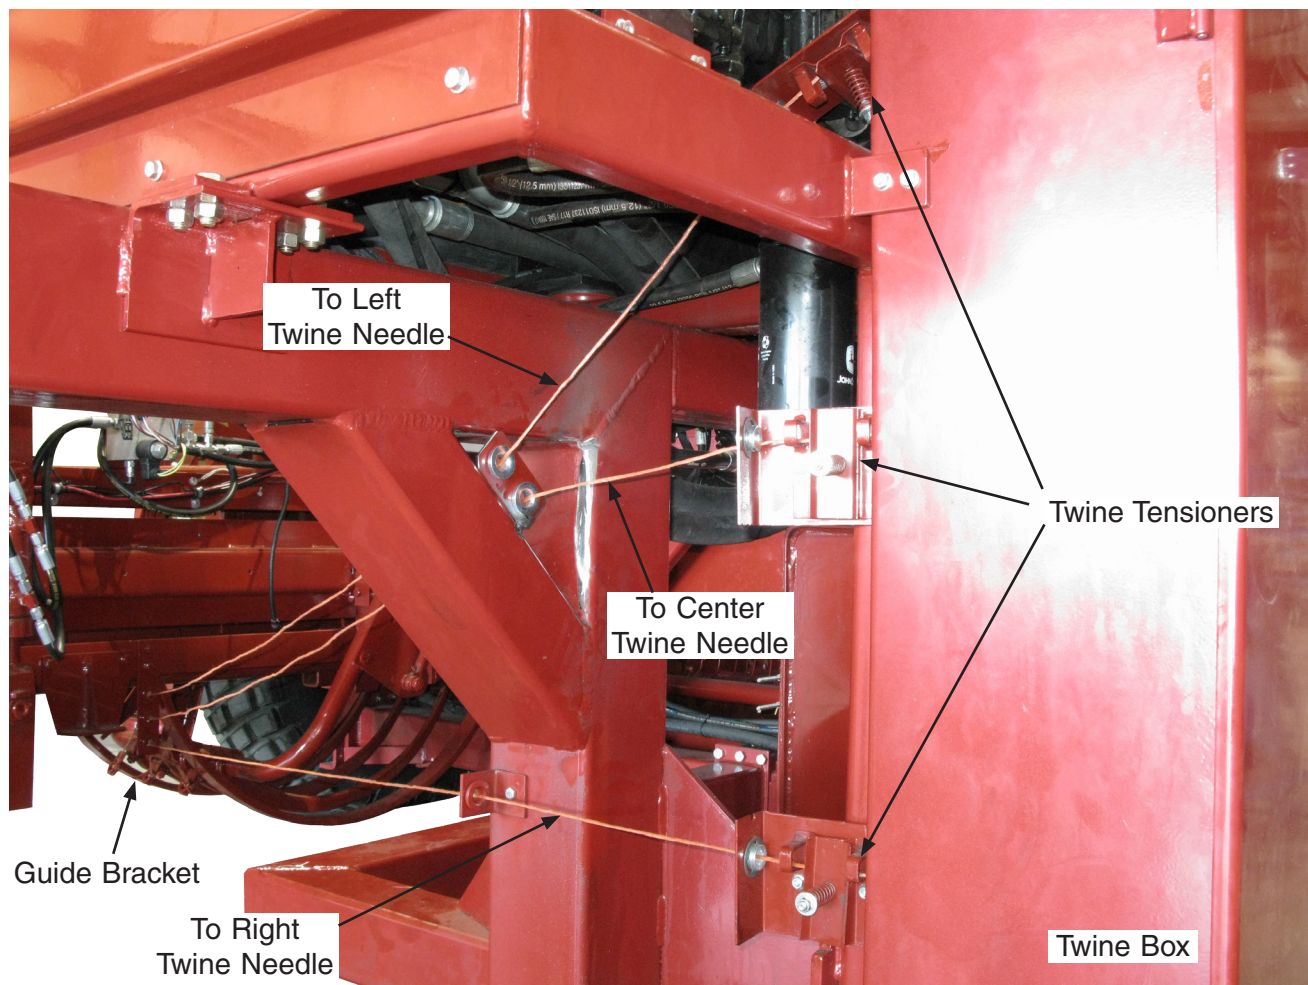

Figure 156. Twine Routing From Twine Box To Bale Chamber
9. Twine from the top tensioner threads through the top guide in the bracket that is mounted to the lower right side of the bale chamber. Twine from the middle tensioner threads through the middle guide, and twine from the bottom tensioner to the bottom guide (See Figure 156).
10. Twine from the top guide bracket on the side of the bale chamber routes first through the guide mounted at the rear of the left needle guard, then to the needle holder plate at the back of the left needle (see Figure 156). The middle twine goes directly to the middle needle holder plate and the twine from the bottom guide goes directly to the right needle holder plate.
11. Feed each strand of twine through the twine holder plate on the bottom side of each needle, running over the two (2) roll pins to hold it in place.